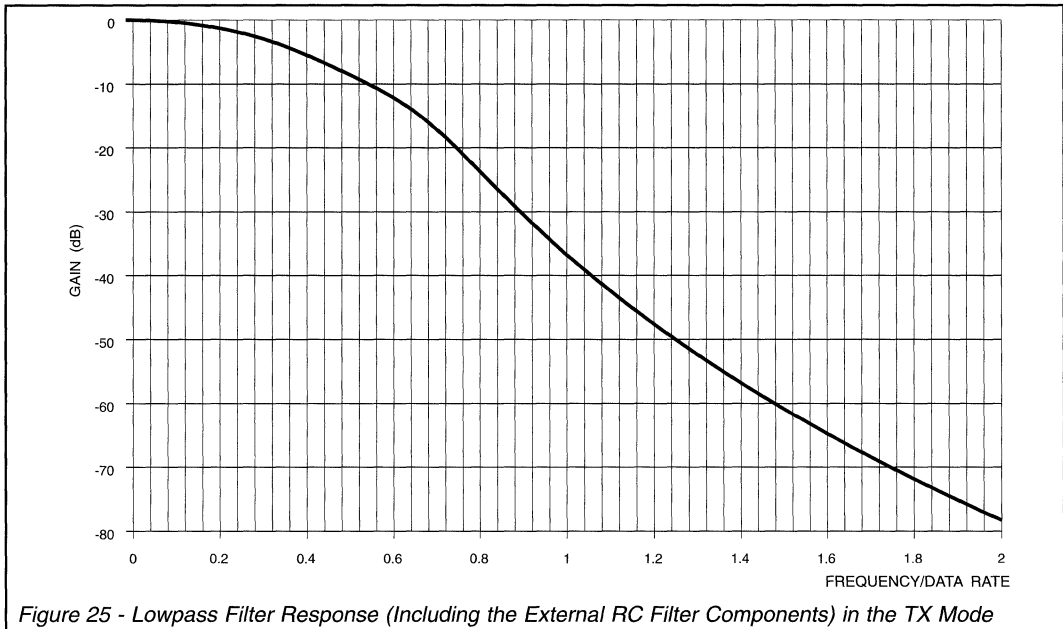

Figure 25 - Lowpass Filter Response (Including the External RC Filter Components) in the TX Mode
6. See Figure 25, Lowpass filter response.